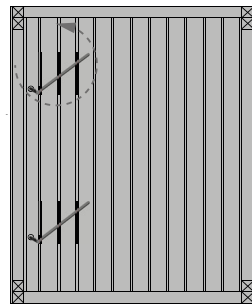

Figure 7.
- 11) Use an Allen key to join the right wall and back wall together (see figure 7).